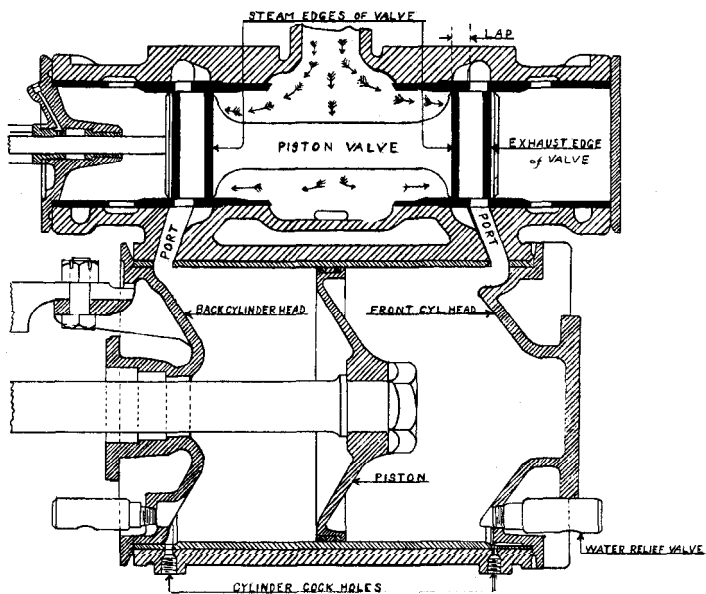

FIG. 52 - POSITION OF VALVE - ENGINE ON BOTTOM QUARTER - REVERSE LEVER IN CENTER
1. **Piston Valve** is a cylindrical spool fitted with packing rings at each end (Fig. 52, page 116). It operates in a cylindrical valve chamber which has an opening from the steam pipe at the center, and to the cylinders at each end. It permits alternate inlet and outlet of steam and distributes piston pressures. The inner packing ring at each end is known as the steam ring and the outer ring as the exhaust ring.
3. **Port** is the opening or passageway between the valve chamber and cylinder for the admission of live steam and the exhaust of steam that has been used (Fig. 52, page 116).
6. **Steam Lap** is the distance between the admission edge of the valve and the nearest edge of the steam port when the valve is in mid-position (Fig. 52, page 116). This permits the steam in the cylinders to be worked expansively.
Figure 52, page 116, shows the piston valve in mid-position with the engine on bottom quarter and the reverse lever in the center. This position has both ports closed for the admission of steam to the cylinders. Moving the reverse lever to the full forward position will move the valve ahead so that the front port will be wide open for admission of steam to the cylinder and the back port will be wide open to the exhaust.